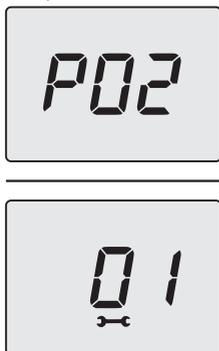

Fig. 9.6
- The value of parameter 02 can be changed from **00=G20** to **01=G31**, which is compatible with LPG, using the 13 or 15 keys (Fig. 9.6).